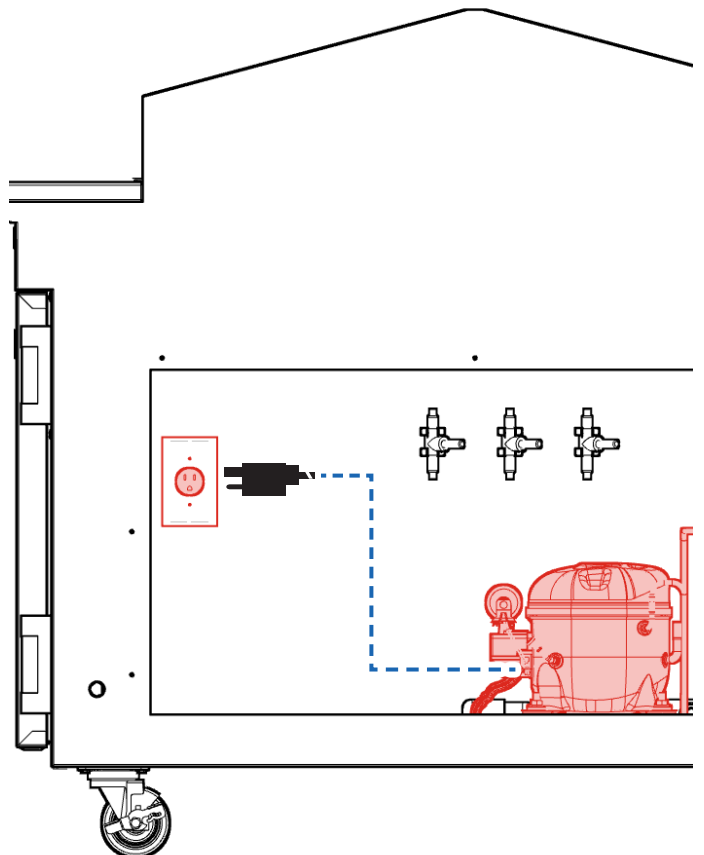

Fig. 33
2. Unplug condenser from receptacle located within condenser compartment (Fig. 33).